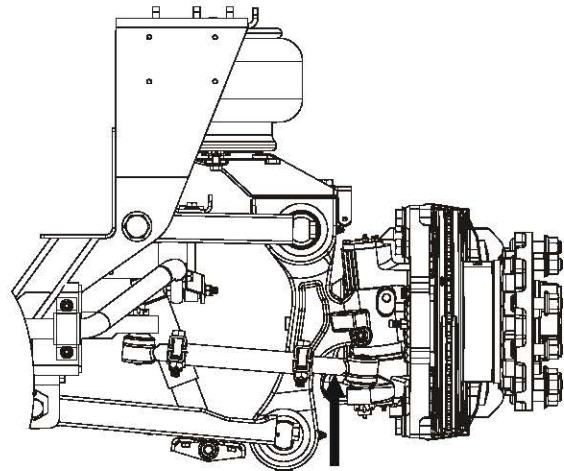

Figure 6 - Tie Rod
1. With the engine on, lightly rock the steering wheel and have an assistant observe any looseness in the two mating tapers or any movement of the stud nut at both ends of the tie rod. (Figure 6). If looseness is found in either place go to step 2, otherwise skip to step 3.
3. With the engine off and the wheels steered straight ahead, grab the tie rod near its end and try to move the socket in a direction parallel to the ball stud axis. (Figure 6). Be sure to only apply hand pressure to the tie rod.
6. Check tie rod clamp orientation (Figure 6)